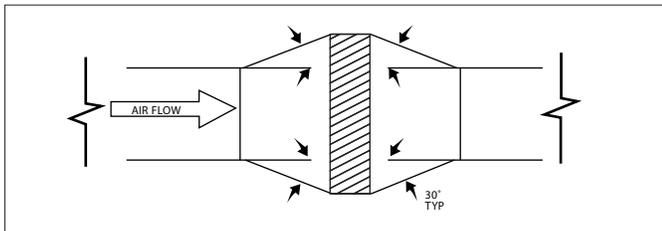

Figure 6 – Transition Section
4. If the duct heater is larger than the duct, use a duct transition section as shown in Figure 6.